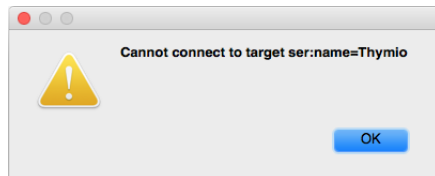

Figure 1: The Thymio-II is not connected.
2. Run the “Aseba Studio for Thymio II” from “Applications” folder (Mac OS X) or the “Start” menu (Windows). You may see the dialog such as the one in Figure 1. In this case click OK. You will then see the connection dialog box such as the one in Figure 2.